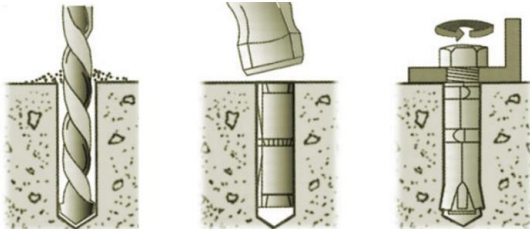

Figure 3-8 Drill holes, set Anchors, and tighten Assembling Bolts
- (2) **Mounting the Bracket.** Tools Required: Electric drill ($\Phi 10\text{mm}/0.4\text{in.}$ head), No. 13 wrench.
Drill holes at the marked positions with a 10mm (0.4in.) drill and insert the **M8 Expansion Anchors** ① into the holes; fasten the **Mounting Bracket** ② with the **M8x25 Assembling Bolts** ③ in the accessory kit. **Figure 3-8 and 3-9.**